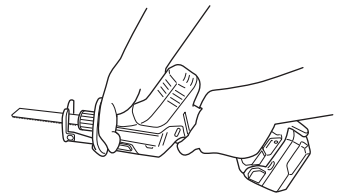

Fig. 17
- Be sure to hold the body from the top of the housing (Fig. 17).